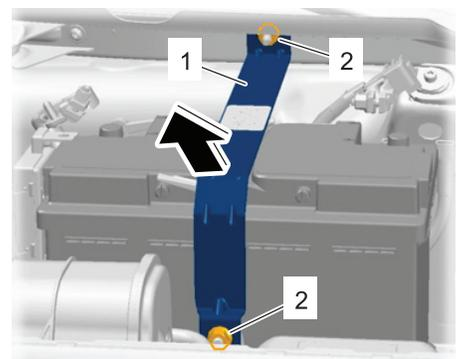

Fig. 6 Retaining bar removal
11. Remove nuts (2), **Fig. 6**.
12. Remove retaining bar (1), **Fig. 6**.